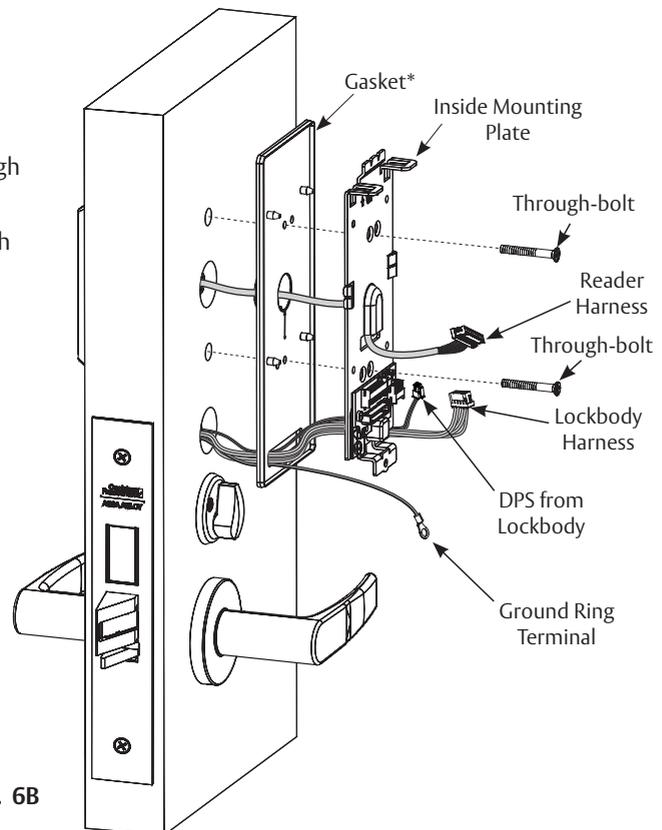

Fig. 6B
- d. Feed reader harness and DPS connectors through inside mounting assembly and gasket if required*. (Figure 6B)
Route wires around flange, do not route wires through flange hole. (Figure 6B)
- f. Begin to secure mounting assembly by partially tightening two (2) through-bolts on inside of door while ensuring proper alignment as reader is secured. (Figure 6B)
- If installing with gasket, separate gasket from mounting plate to feed cables/connectors through holes as indicated (Figure 6B)